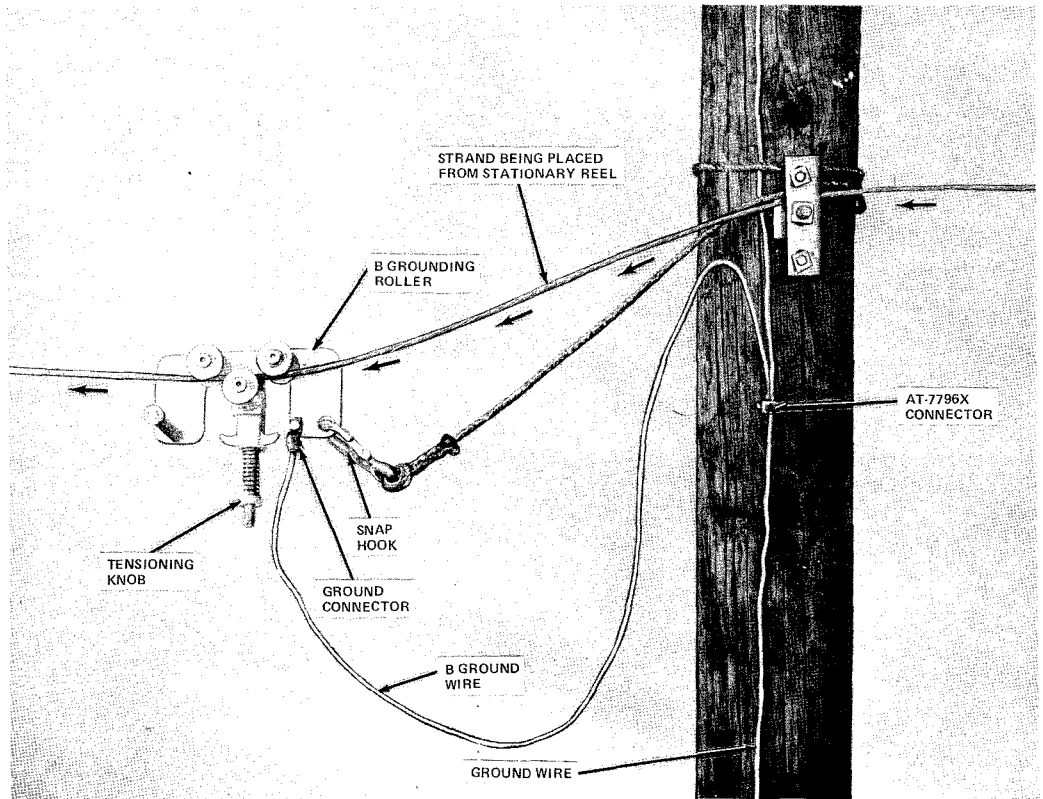

Fig. 4—B Grounding Roller Installed
- (c) Attach the other end of the B ground wire to a low-impedance ground, as shown in Section 627-230-203. A connection between a B grounding roller and a vertical ground conductor is illustrated in Fig. 4.
- (c) Insert the strand open wire or winch line between the rollers and release the knob. Figure 4 shows the completed installation.